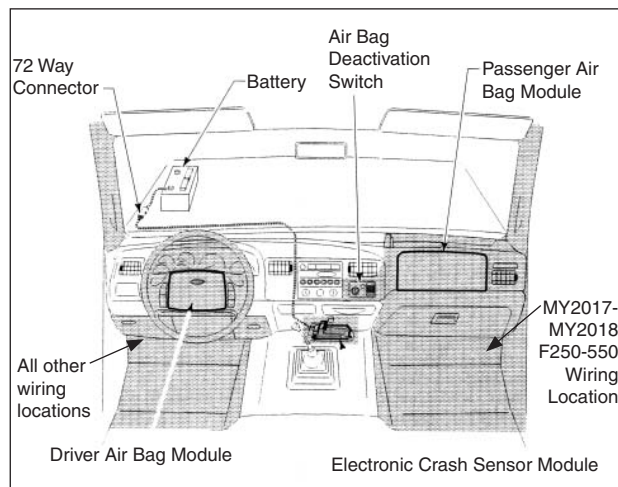

Figure 24
2. Locate a position in the cab for mounting the PTO switch and mounting bracket. The shaded area in **Fig. 24** shows the Occupant Protection Zone of the deployed air bags that are available in these vehicles.